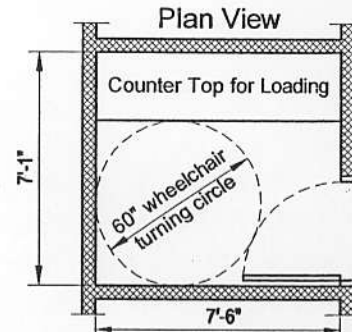

Fig 2. Wheelchair Loading Darkroom
(1) Film/Reel loading rooms have no safelights. Hinged doors to these rooms must have light-tight thresholds and perimeter door sealing to totally stop light. The wheelchair loading room (see Fig 2.) should have a turning circle of 60" diameter. The Classroom will be lighted with ordinary white light. If there is a studio in the classroom, windows will need blackout blinds to totally control light.
(2) The B&W Print Processing Darkroom should be lighted with "yellow" (Kodak Wratten #OC) safelight. Hang safelights pointed to the ceiling to create a soft, indirect light to permeate the darkroom. Also provide white tungsten light for general illumination, for teacher demonstrations and for cleaning.